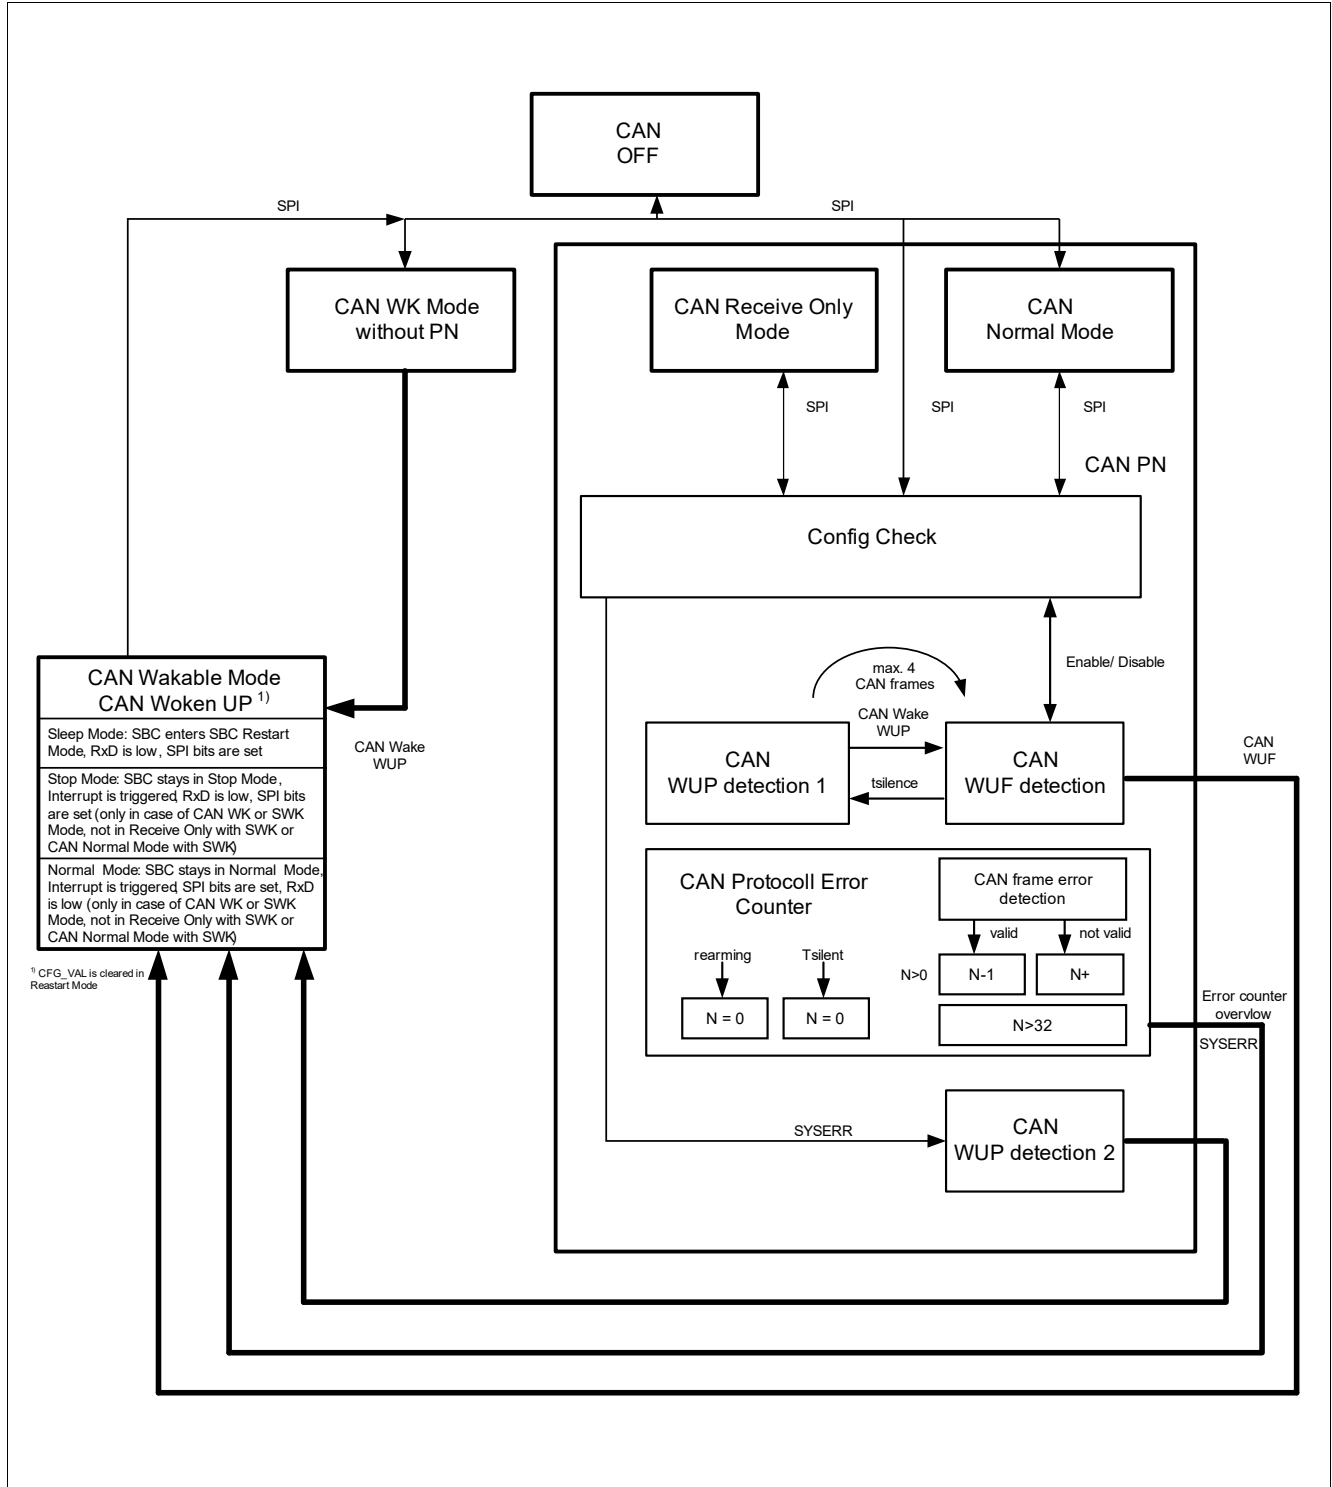

Figure 11 CAN Selective Wake State Diagram
*Note: It is possible that WUF and WUP bit are set at the same time if a WUF causes a wake out of SWK, by setting the interrupt or by restart out of SBC Sleep Mode. The reason is because the CAN has been in WUP detection 1 state during the time of SWK mode (because of  $t_{\text{SILENCE}}$ ). See also **Figure 11**.*
The **SWK\_SET** bit is set to signalize the following states (see also **Figure 11**):